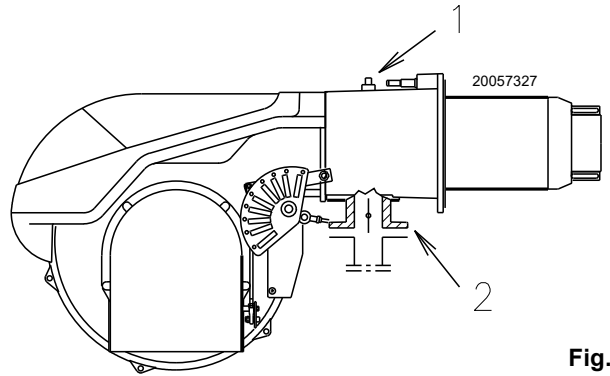

Fig. 25
Gas pressure measured at test point 1)(Fig. 25), with:
Pressure loss at gas butterfly valve 2)(Fig. 25) with maximum opening: 90°.
- subtract the combustion chamber pressure from the gas pressure measured at test point 1)(Fig. 25).
To calculate the required gas pressure at test point 1)(Fig. 25), set the maximum modulating output required from the burner operation:
- Read, on the right (column 1), the pressure at the test point 1)(Fig. 25).
pressure required at test point 1)(Fig. 25).